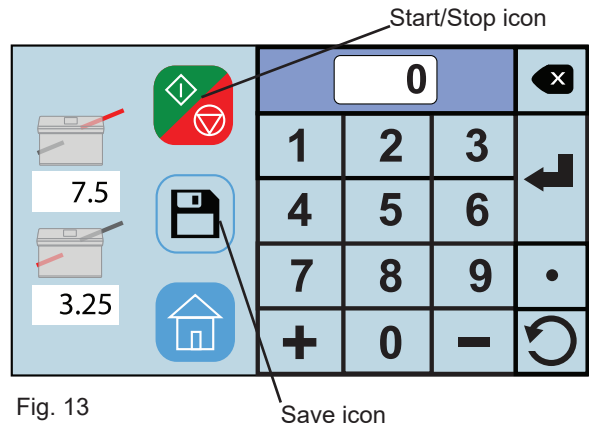

Fig. 13
- With one form loaded in the feeder press the “Start/Stop” icon  (Fig. 13) to check that the fold settings are correct. To adjust the settings repeat steps 1 - 3.